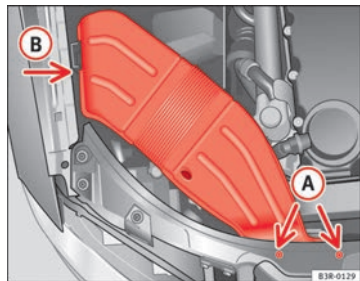

Fig. 205 Air duct on right side of vehicle
- Unscrew bolts **A** ⇒ Fig. 205.